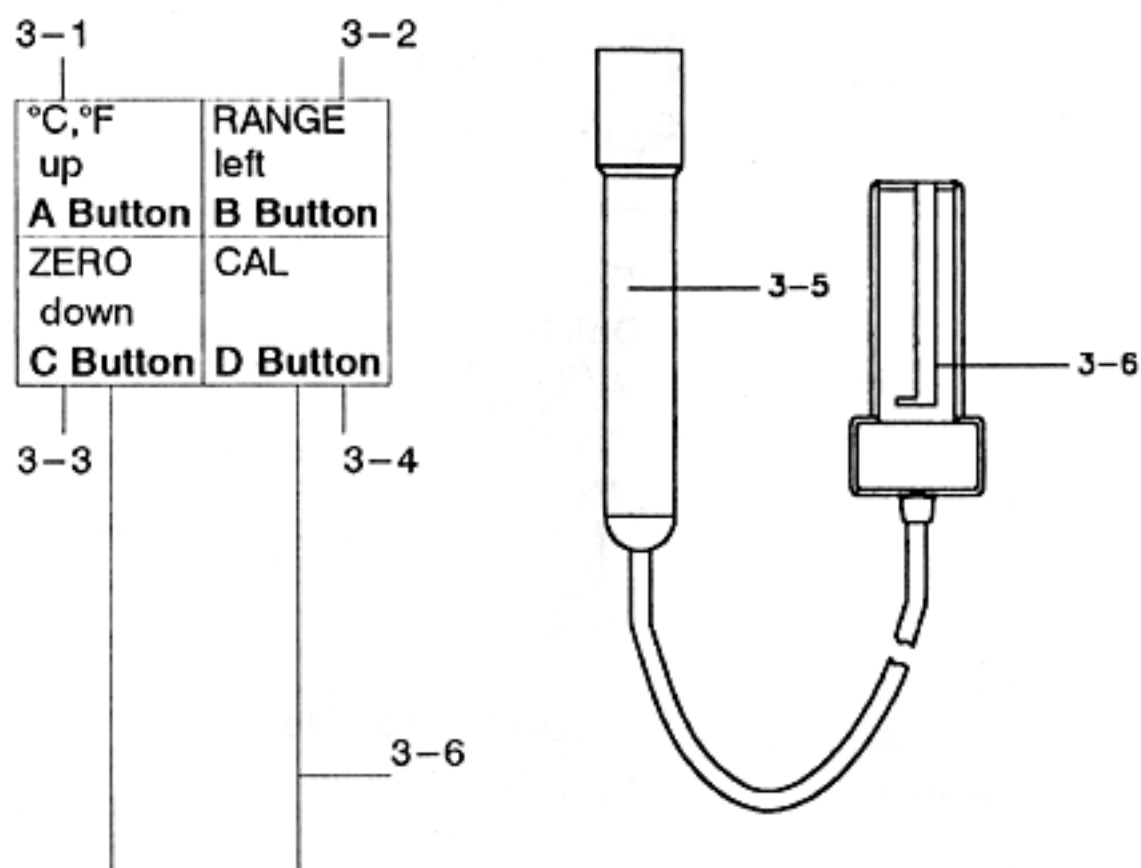

Fig. 1
- 1) Connect the " Conductivity Probe plug " (4-6, Fig. 1) into the meter (YK-2001PH).
- 3) Use the " CD/TDS " Button (C Button) (3 -3, Fig. 1), select the function to the conductivity measurement. The display will show the unit of " mS ".
- a. Push the " Temp. C Button (D Button) " (3-4, Fig. 1), the display will show :
" up Button (A Button) " (3-1, Fig. 1),
" left Button (B Button) " (3-2, Fig. 1)
" down Button (C Button) " (3-3, Fig. 1)
c. Once the desired value is reached, push the " Temp. C Button (D Button) " (3-4, Fig. 1) to set the new value.
5) Select the applicable range, by using the " Range Button (B Button) " (3-2, Fig. 1).
6) Immerse the head of " Conductivity Probe " (3-5, Fig. 1) into the solution, up to the immersion level.
** Push the " °C/°F Button " (3-1, Fig. 1) to change the temperature display unit from "°C to °F" or "°F to °C".*
The operation procedures are same as the above 4-1, except that Use the " CD/TDS " Button (C Button) (3 -3, Fig. 1), select the function to the TDS measurement. The lower display will show the text of " P ".
- 2) Immerse the head of " Conductivity Probe " (3-5, Fig. 1) into the 1,413 mS solution up to the immersion level.
- 2) Immerse the head of " Conductivity Probe " (3–5, Fig. 1) into the 12.88 mS solution up to the immersion level.